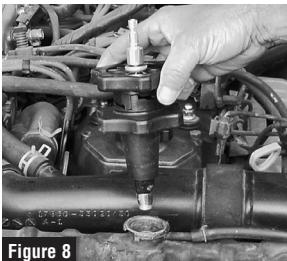
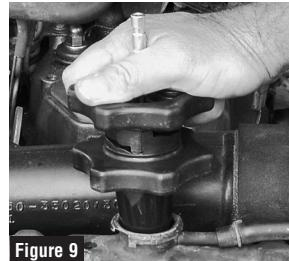

Figure 8
Figure 9
1. Carefully remove the radiator cap. Select a universal-fit adapter that most closely fits the size opening of the radiator fill neck. See Figure 8. Insert the adapter into the radiator fill neck. Ensure universal-fit adapter is at its shortest height, with the top and bottom hexagonal adjusting knobs at their closest positions and at the bottom of the stair-step cam slope. See Figure 9.